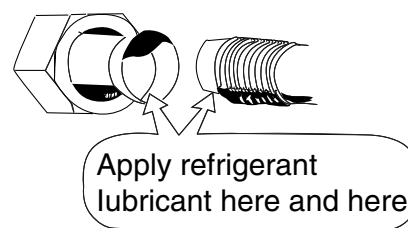

Fig.28
- Be sure to apply refrigerant lubricant to the matching surfaces of the flare and union before connecting them together. This is effective for reducing gas leaks. (Fig.28)